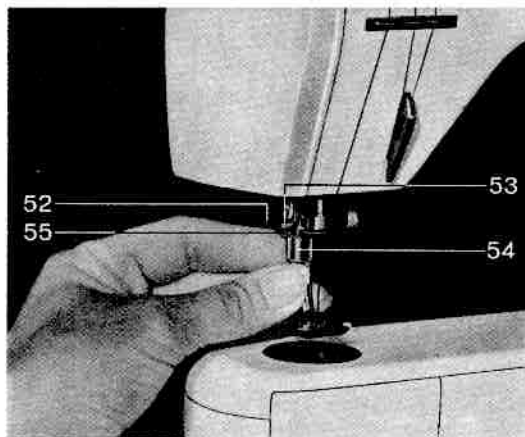

Fig. 22
a) *To remove the presser foot* (fig. 22)